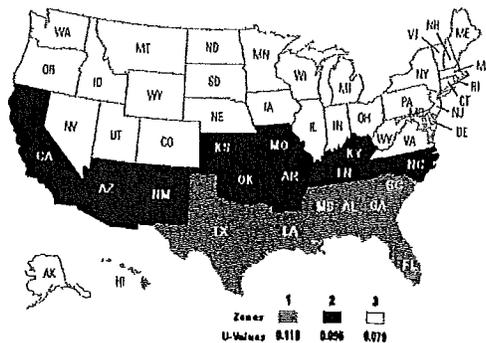

Figure 3. Thermal (UO) zone map
From Figure 3, identify the thermal (UO) zone for the home. Verify that the home conforms to the following rules.